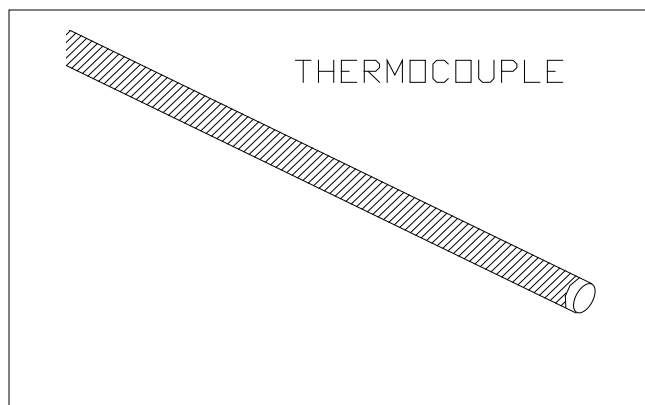
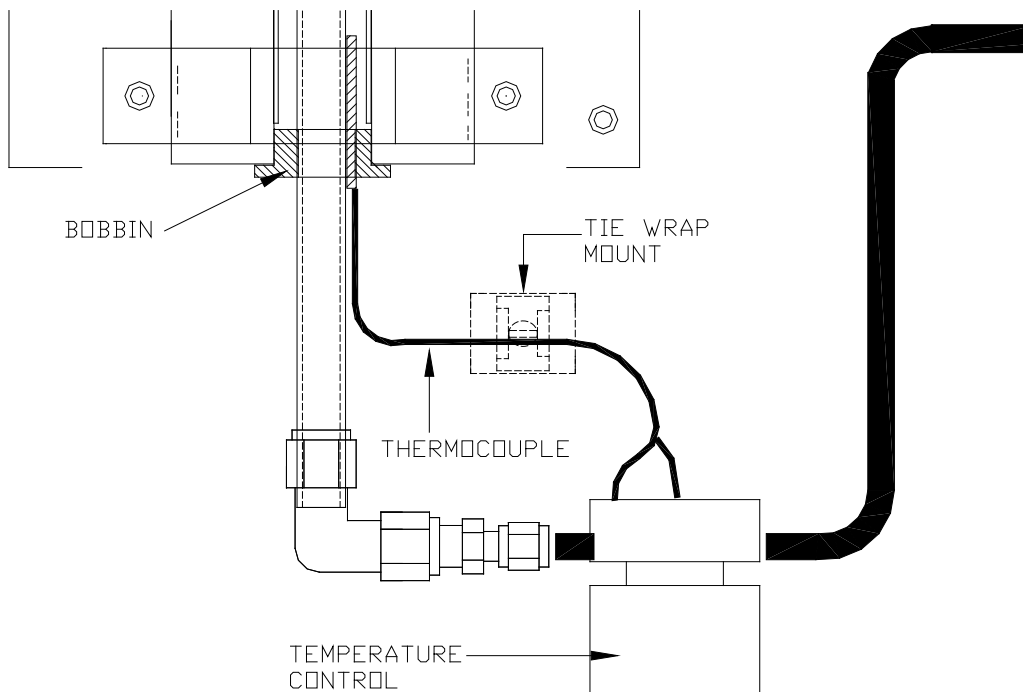

Figure 6-31. Thermocouple
Figure 6-34. Tie-Wrap Hold-Down Location
Continuous operation at high temperatures will eventually degrade the performance of the thermocouple used to sense the temperature of the quartz oven. The following instructions are for replacing the thermocouple in the Converter Heater Block with the thermocouple supplied in the kit that must be obtained from TAPI. Figure 6-31 through Figure 6-34 provide illustrations for this procedure.
16. Clean the chassis where the Tie-Wrap Hold-Down will be placed (alcohol is recommended) and place the Tie-Wrap Hold-Down as shown in Figure 6-34.